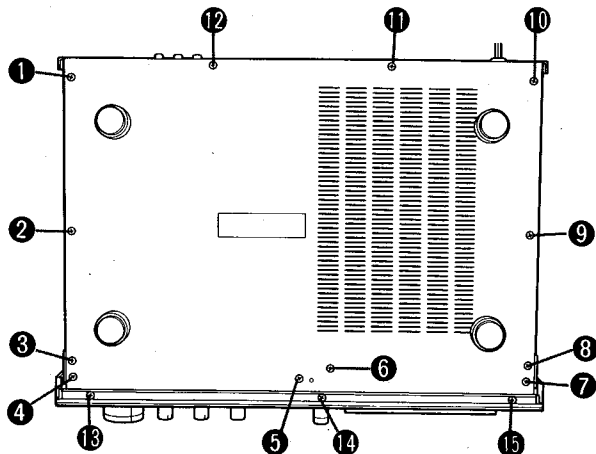
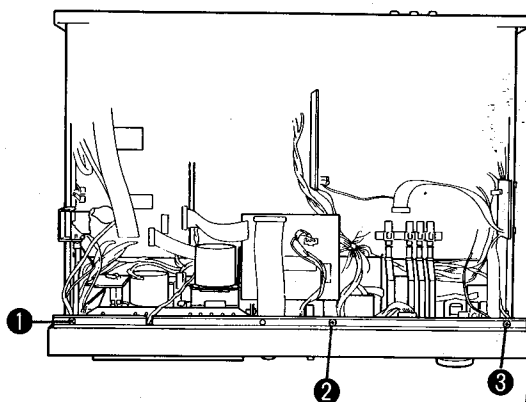

Fig. 2
Fig. 3
② CABINET BOTTOM REMOVAL
Remove the screws ① to ⑫ in Fig. 2 and then remove the cabinet bottom.
③ FRONT PANEL ASSEMBLY REMOVAL
1. Remove the cabinet top. (Refer to step ①.)
5. Remove the screws ⑬ to ⑮ in Fig. 2 and the screws ① to ③ in Fig. 3, and then pull out the front panel forward.